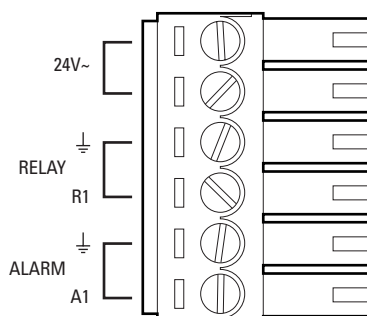

Figure 4. Alarm and Relay Wiring
- Connect the necessary wiring for alarms and relays (refer to Figure 4). Only use the 24 VAC wires if PoE is not available.